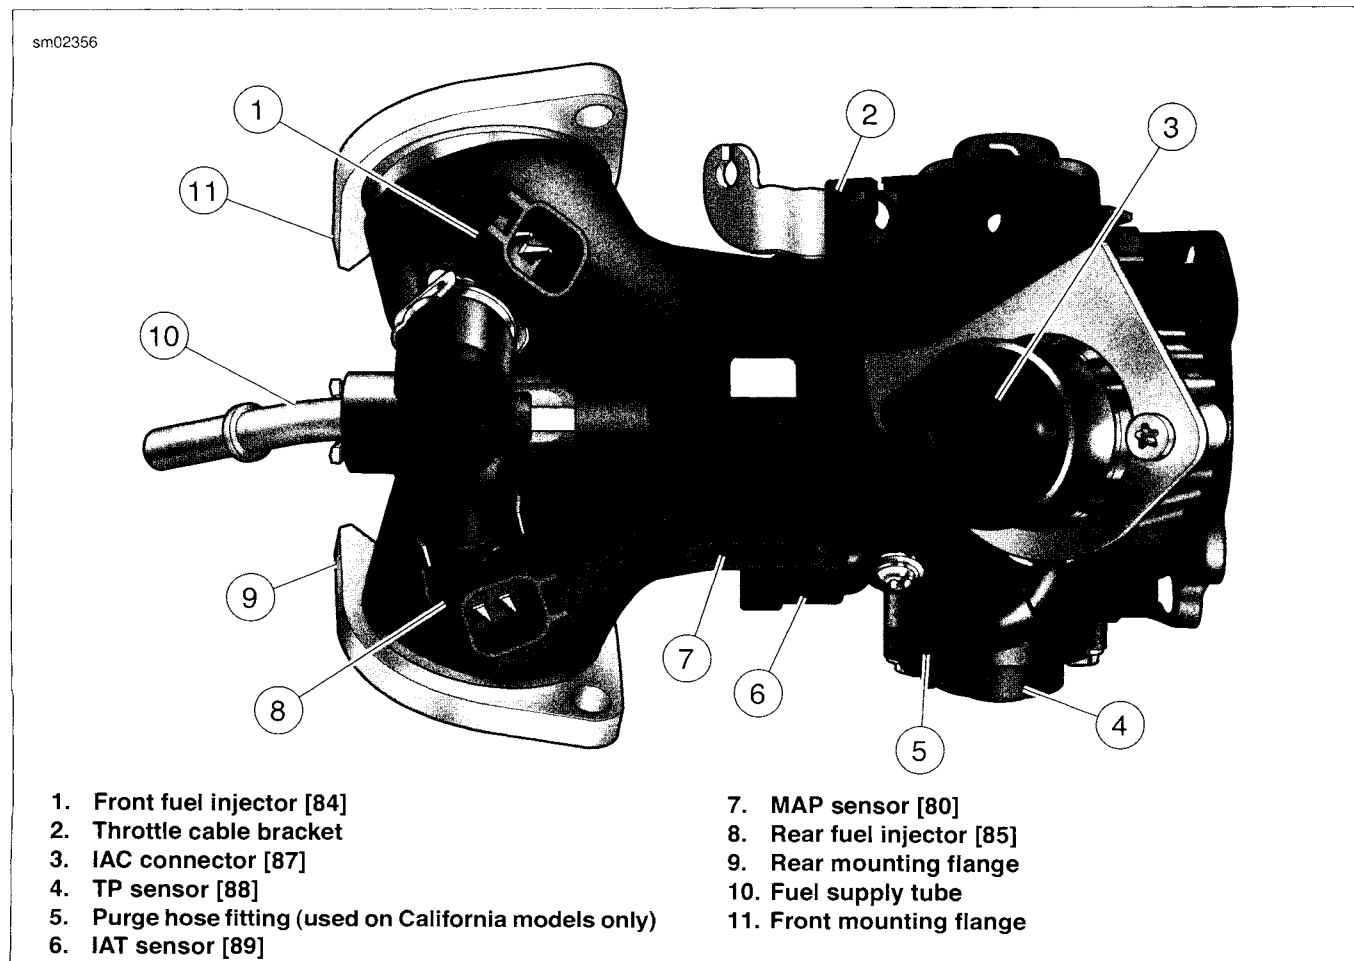

Figure 4-20. Induction Module
4. See Figure 4-20. Pull purge hose from fitting (5) at top of induction module (California models only).
6. See Figure 4-20. Remove idle air control connector (3) [87] and manifold absolute pressure sensor connector (7) [80].
1. See Figure 4-20. Place a **new** seal in each mounting flange (9, 11) with the beveled side in against the counter-bore.
6. See Figure 4-20. On California models, attach purge hose to fitting (5) on throttle body.
7. Connect front (1) and rear (8) fuel injector connectors, IAC (3) connector, MAP sensor (7) connector, TP sensor (4) connector and IAT (6) sensor connector.